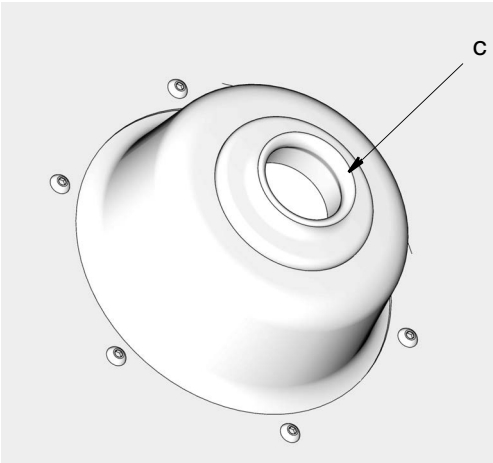

FIG. 7
- 5. Examine follow plate to make sure rubber grommet (c) is in place in center of the plate (FIG. 7).